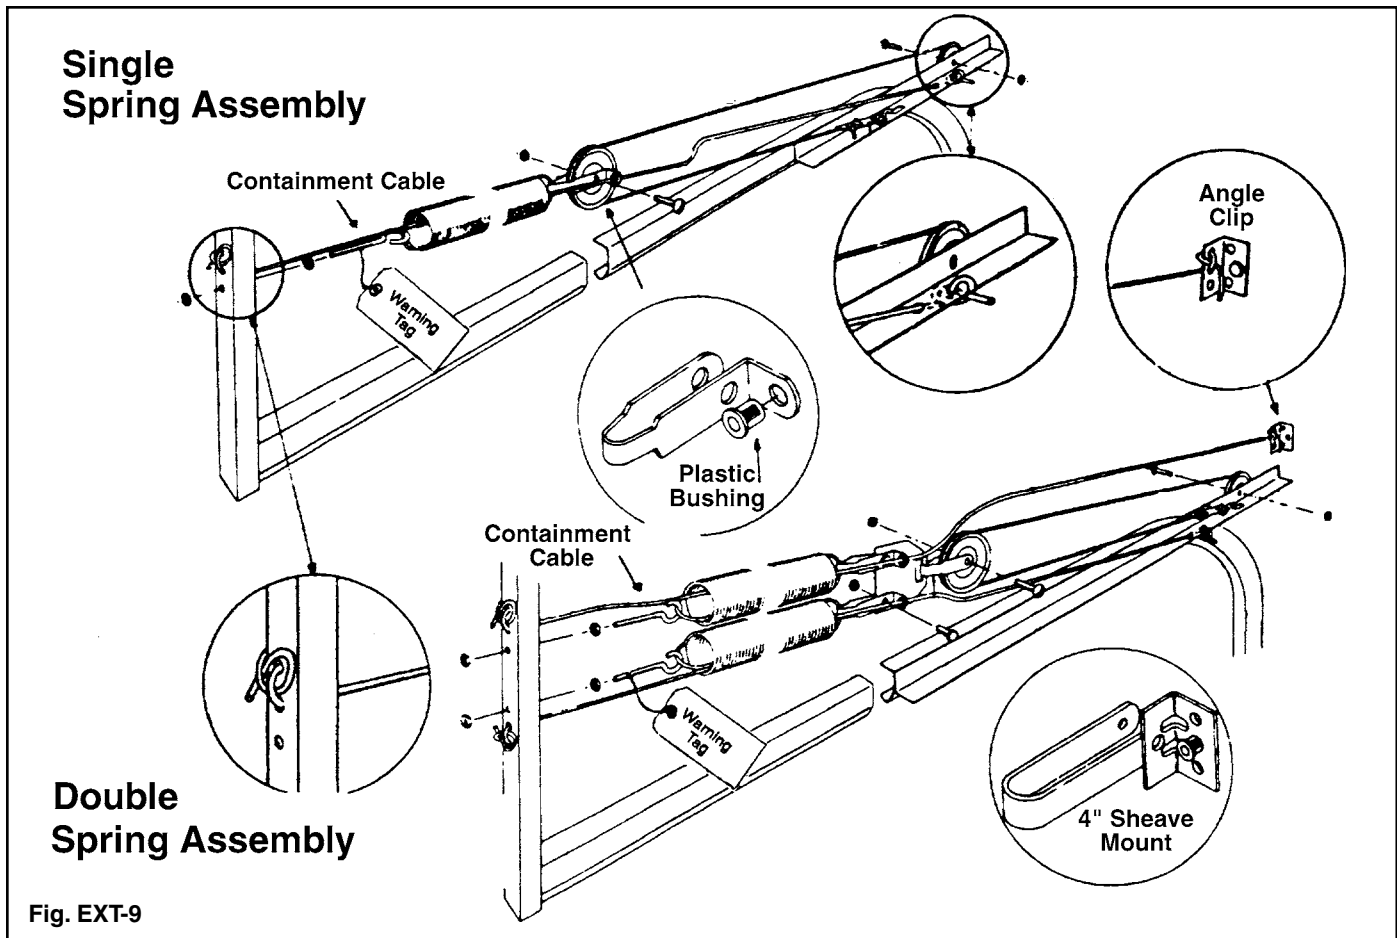

Fig. EXT-9
Important: Attach the warning tag found in the white envelope with orange print to the spring assembly (this tag may already be attached). (FIG. EXT-9)
Step 8: Tie one end of the 1/8" containment cable to the rear track hangers. Tie the cable as shown in the illustration (FIG. EXT-9). Thread the cable through the center of the extension spring and through the bushing in the sheave fork. Tie the remaining end to the horizontal angle as shown. This must be done for each of the springs.
NOTE: If your door has four extension springs, tie the upper containment cable to an angle clip mounted to the jamb. (FIG. EXT-9)